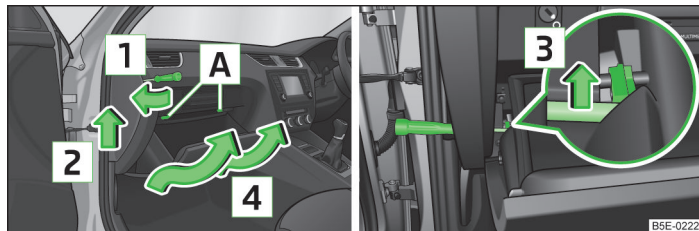

Fig. 208 Storage compartment on the front passenger's side: RHD
- Insert a screwdriver under the side cover » Fig. 208.
- Pull in the storage compartment behind the brackets **A** » Fig. 208.